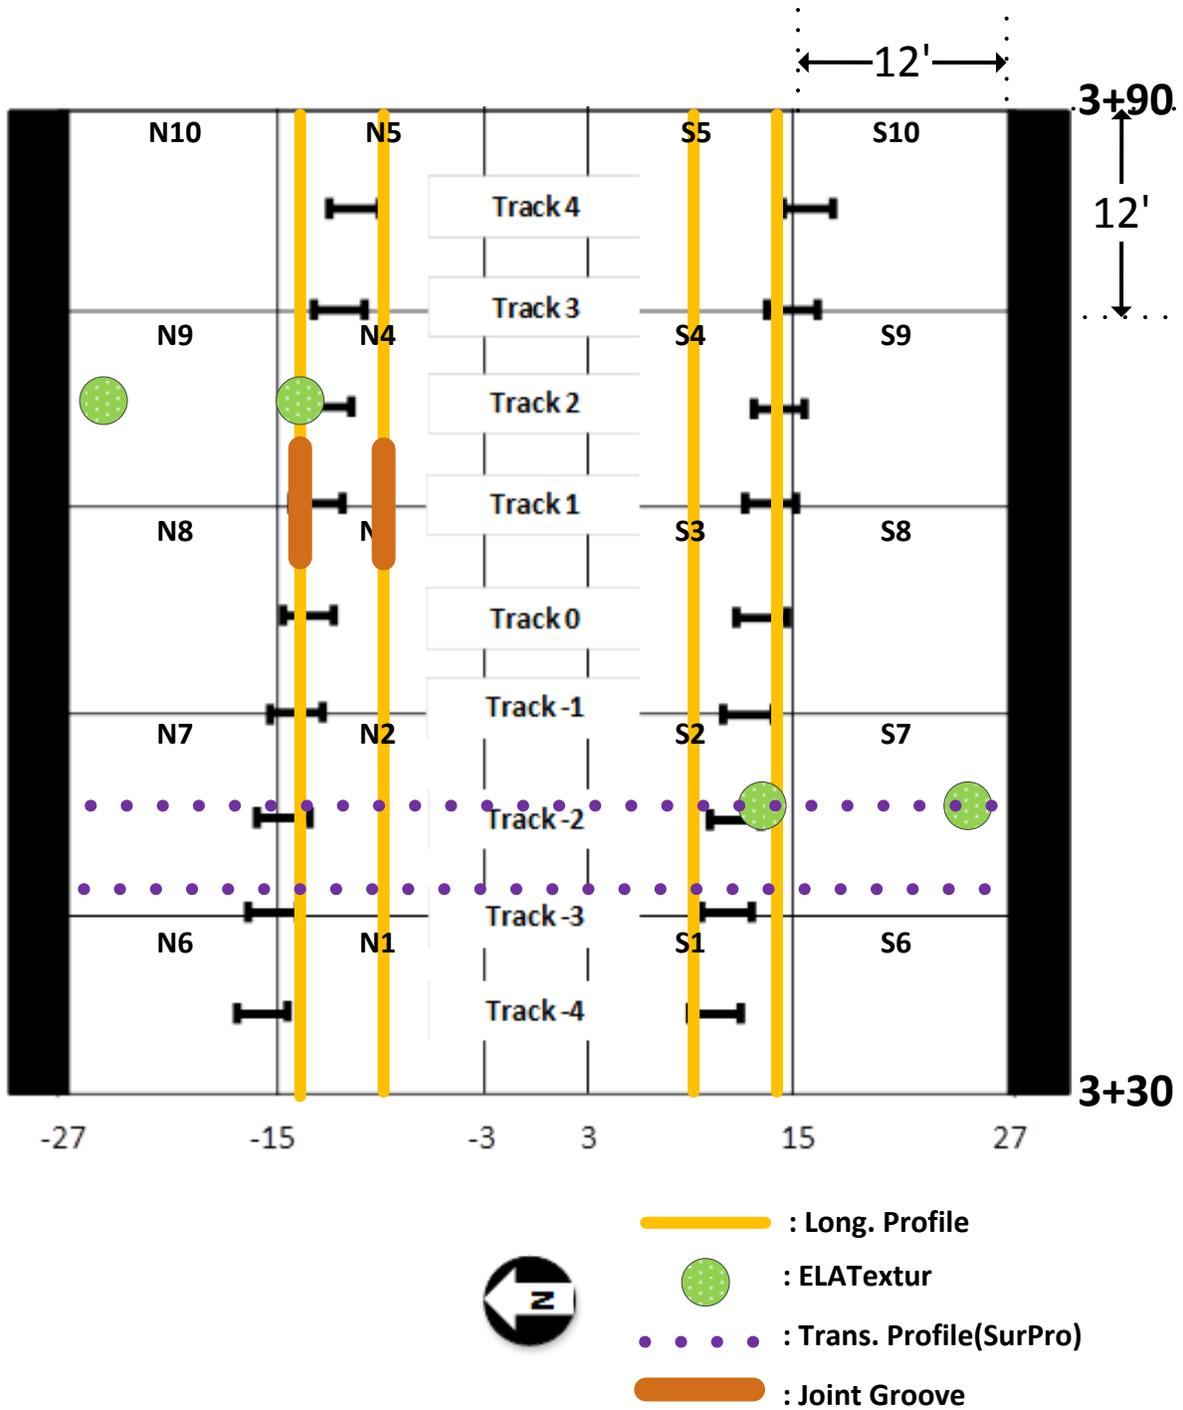

Figure 2. Longitudinal Profile, ELATextur, Transverse Profile, and Joint Groove Profile Test Locations.
2. **Mobile Profiler / SurPro (Feb. 4-5):** Take longitudinal profiles using the NDT van mobile profiler and take transverse profiles using SurPro . All profiles will be taken at the same time as 2D/3D imaging. Locations of longitudinal and transverse profiles are shown in Figure 2.
3. **Joint Groove Profiler (Feb. 4-5):** Take baseline profiles at slab N3 and N4. Profiles also will be taken prior at the end of trafficking and will be used to detect slab curling across the transverse joint. The locations are depicted in the following Figure 2.
1. **ELATextur:** ELATextur readings will be taken to monitor abrasion on concrete surface at both trafficked and nontrafficked areas as shown in the following Figure 2. Texture readings will be taken prior to trafficking and end of the trafficking.